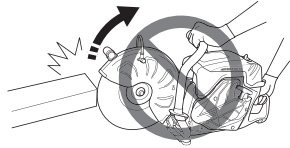

Fig. 4
- Use special care when working corners, sharp edges etc. Avoid bouncing and snagging the cut-off wheel. Corners, sharp edges or bouncing have a tendency to snag the rotating wheel and cause loss of control or kickback. (Fig. 4)